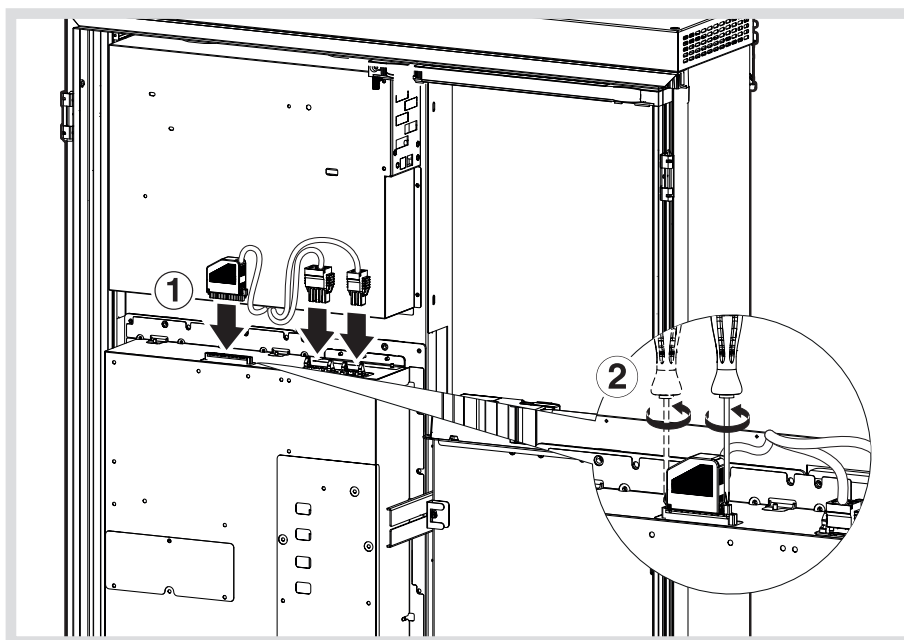

Figure 20: Connect the inverter with the battery controller
- Insert battery controller plugs that are protected against polarity reversal in the inverter (Figure 20).